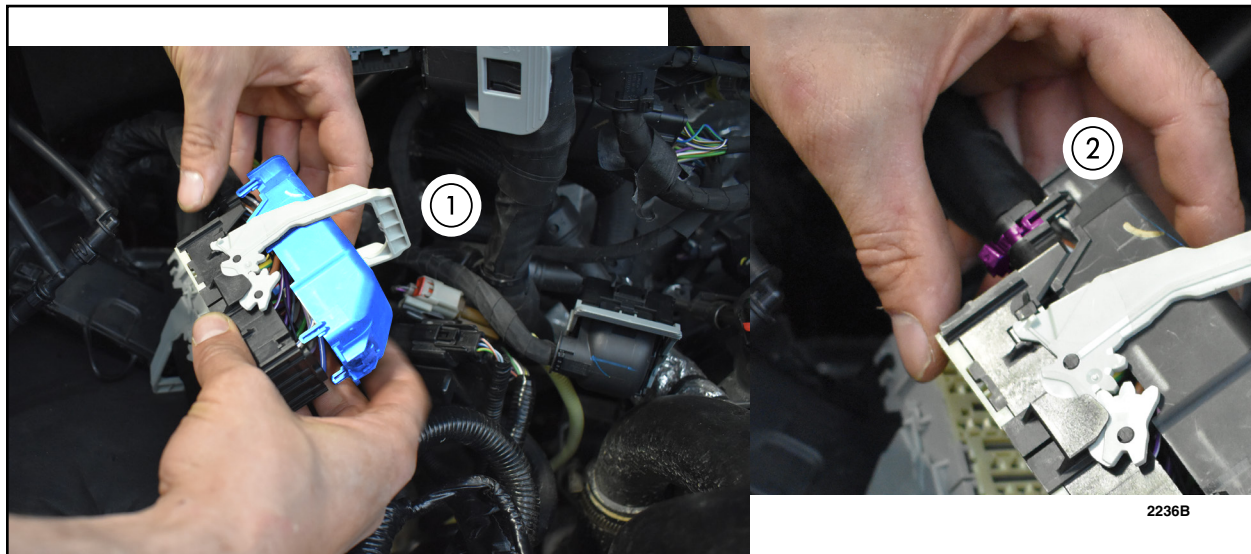

FIGURE 16
18. Remove back shell and zip-tie from 50-way black connector (C1035B). See Figure 16.